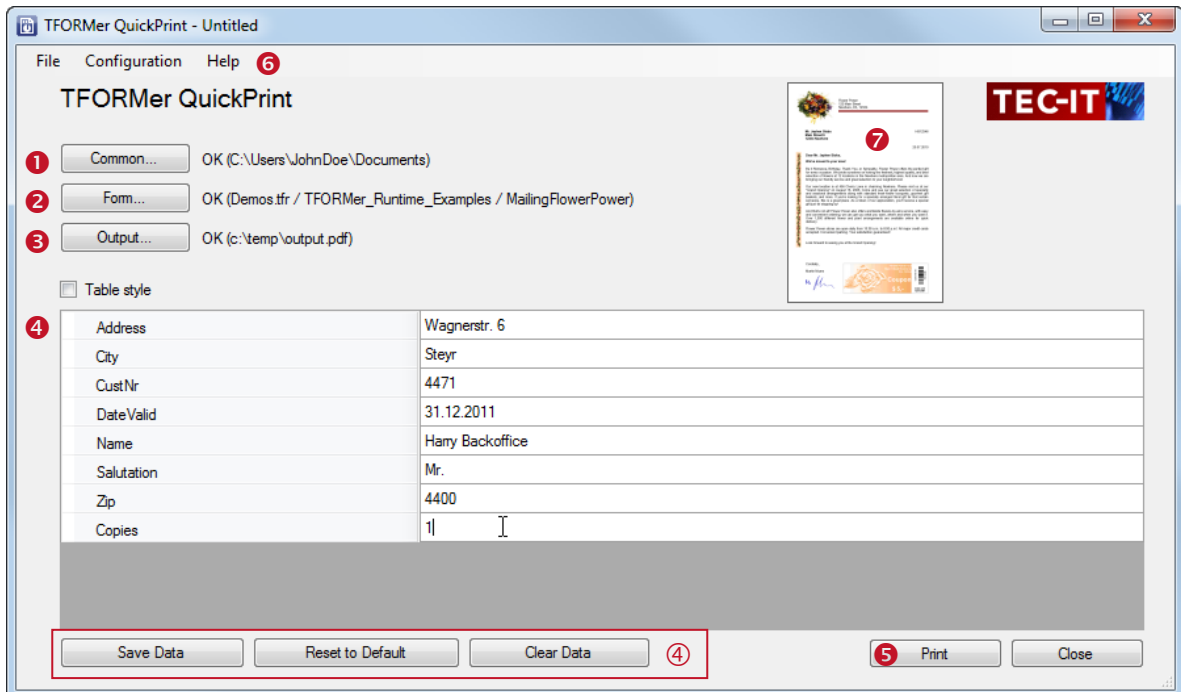

Figure 1: User Interface
When pressing the *Print* button (see Figure 1, ⑤) the output will be created according to the specified output settings (see Chapter 5.3).